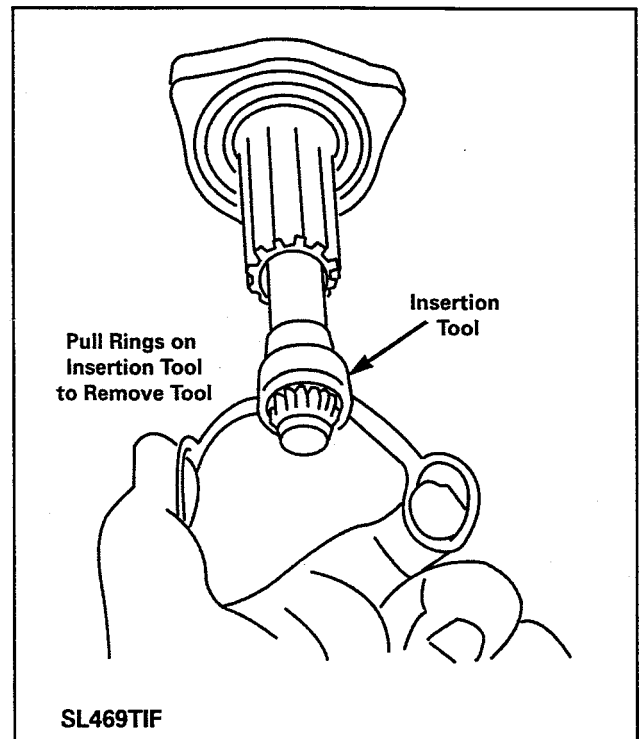

Figure 7-7f
7. Pull the rings with the insertion tool to remove, thus leaving the new oil seal on the drive shaft (*Figure 7-7f*).